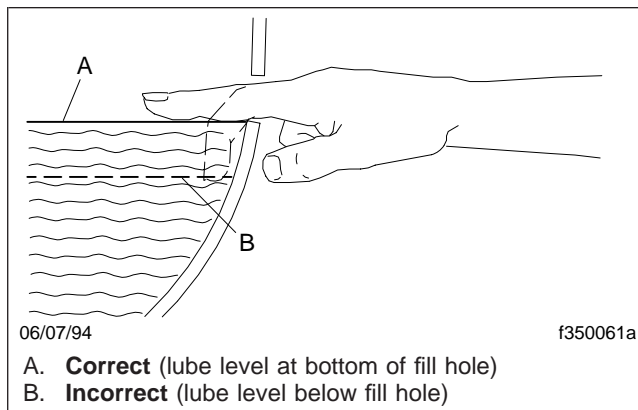

Fig. 1, Axle Lubricant Checking
2. Make sure that the lubricant is level with the bottom of the filler plug hole. See **Fig. 1**.